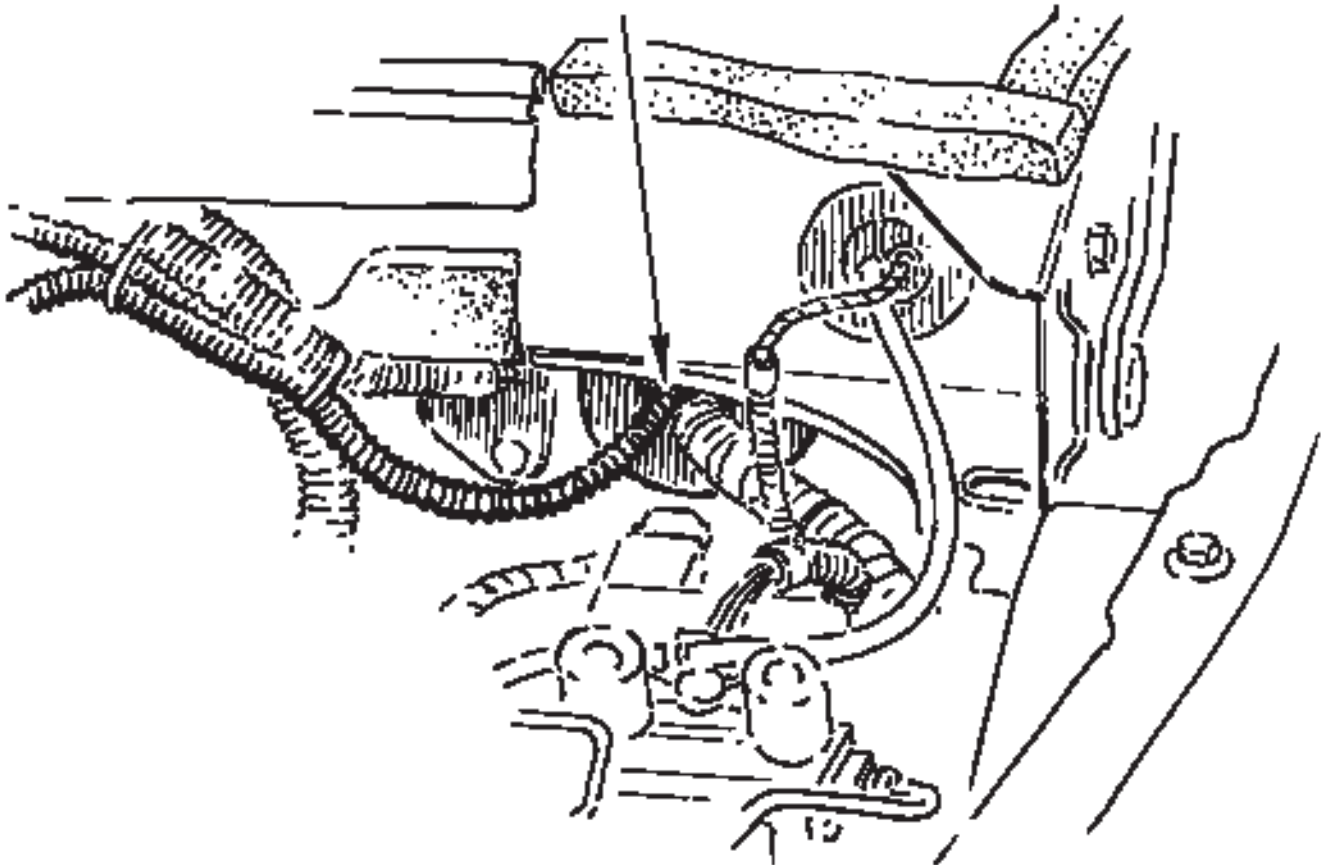

Figure 10
4. Peel the protective backing from the foam tape on the Smartlock Trans Brake. The Smartlock Trans Brake should be oriented so that the electrical connector is facing toward the rear of the vehicle. See **Figure 10**. Attach the Smartlock Trans Brake to the aluminum frame. Apply light pressure to the Trans Brake box by hand for approximately 60 seconds to seat the foam tape and create a strong bond.
6. Drill a ¼" hole through the sheet metal frame at the location shown for attaching the wiring harness ground lead. Secure the lead with the ¼-20 bolt, nylock nut and washers provided. See **Figure 10**.